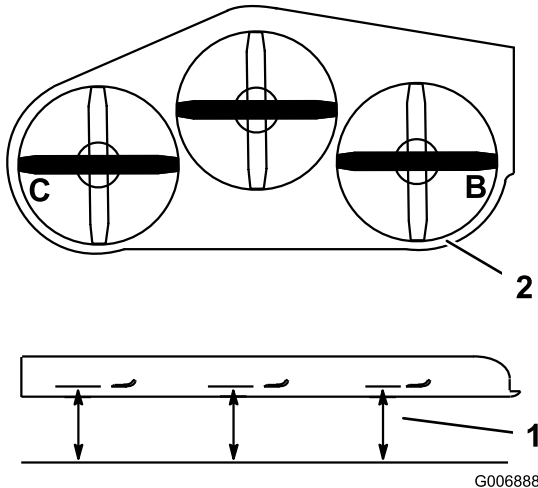

Figure 78
- Measure at the **B** and **C** locations from a level surface to the cutting edge of blade tips (Figure 78).